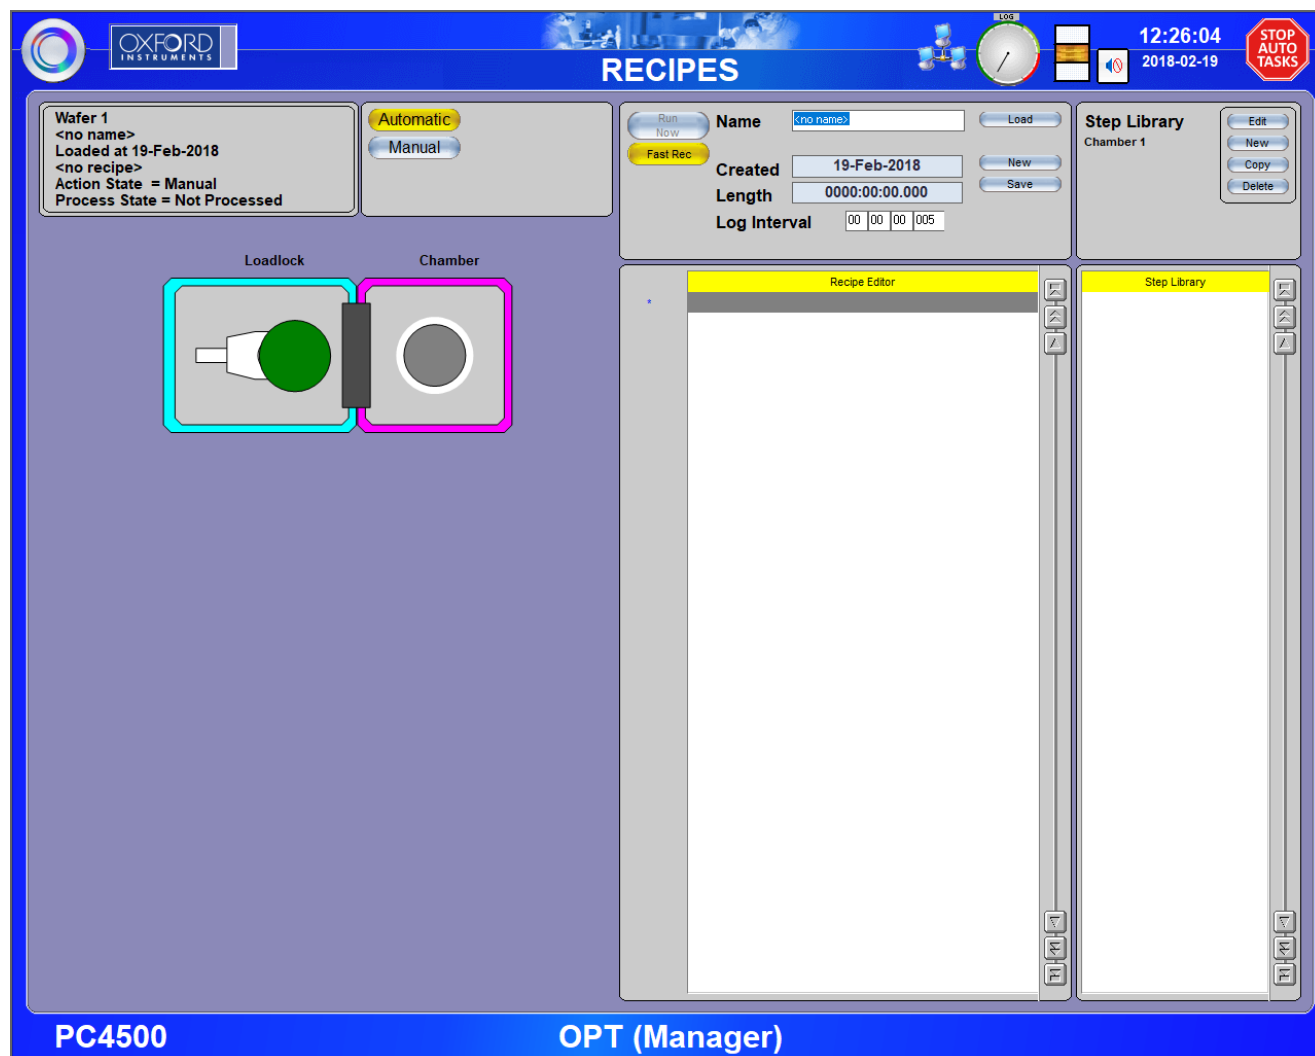

Figure 4-12 Recipes page
- 14 Click **Run Now** (Figure 4-12). This initiates the following automatic sequence: